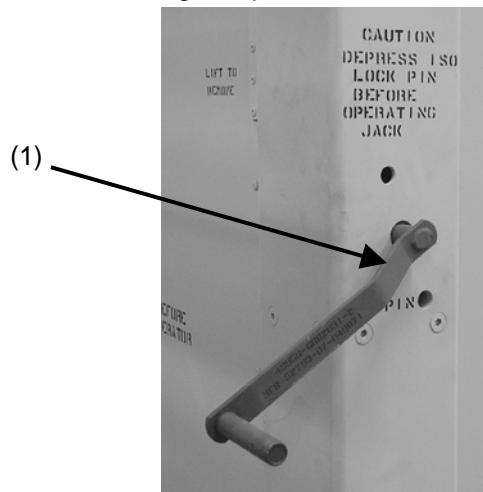

Figure 2-13. Corner post of SATS with jack handle positioned in jack
- b. Go to corner of container located right of personnel door. Place jack handle (1) in jack (Fig. 2-13).
- b. Go to corner of container located left of personnel door. Place jack handle in jack (Fig. 2-13).
- b. Go to corner of container located at right side end wall. Place jack handle in jack (Fig. 2-13).